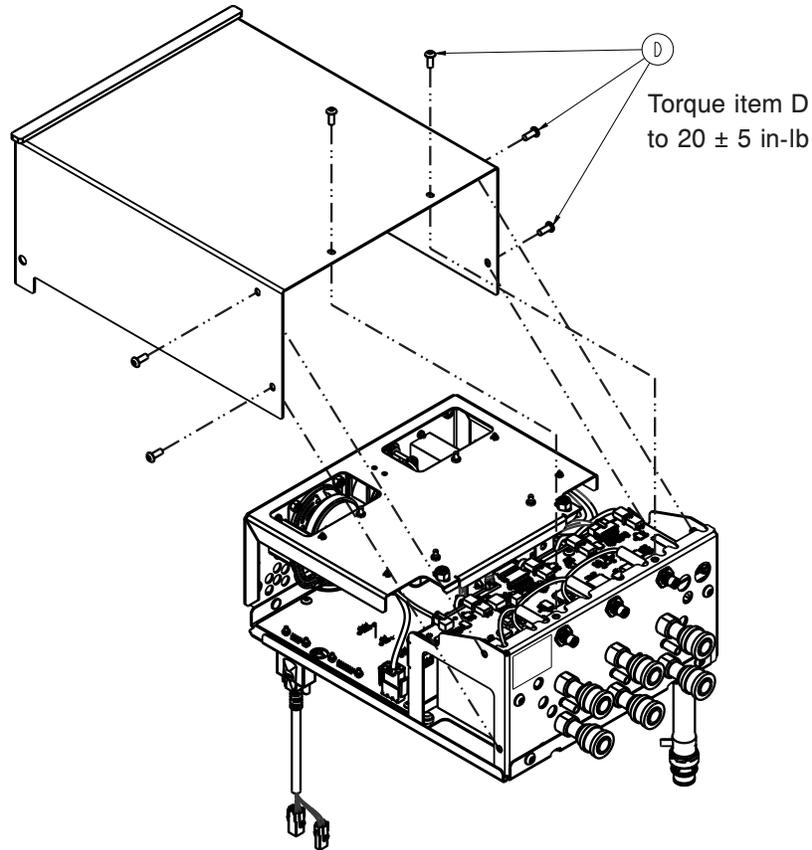

Figure 32 – Control box cover
- Using a T25 Torx driver, remove the six screws (D) that secure the control box cover to the MCB frame (Figure 32). Save the screws.